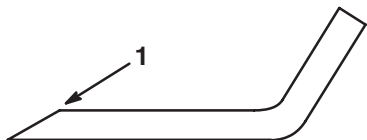

Figure 23
1. Use a file to sharpen the cutting edge at both ends of the blade (Fig. 23).